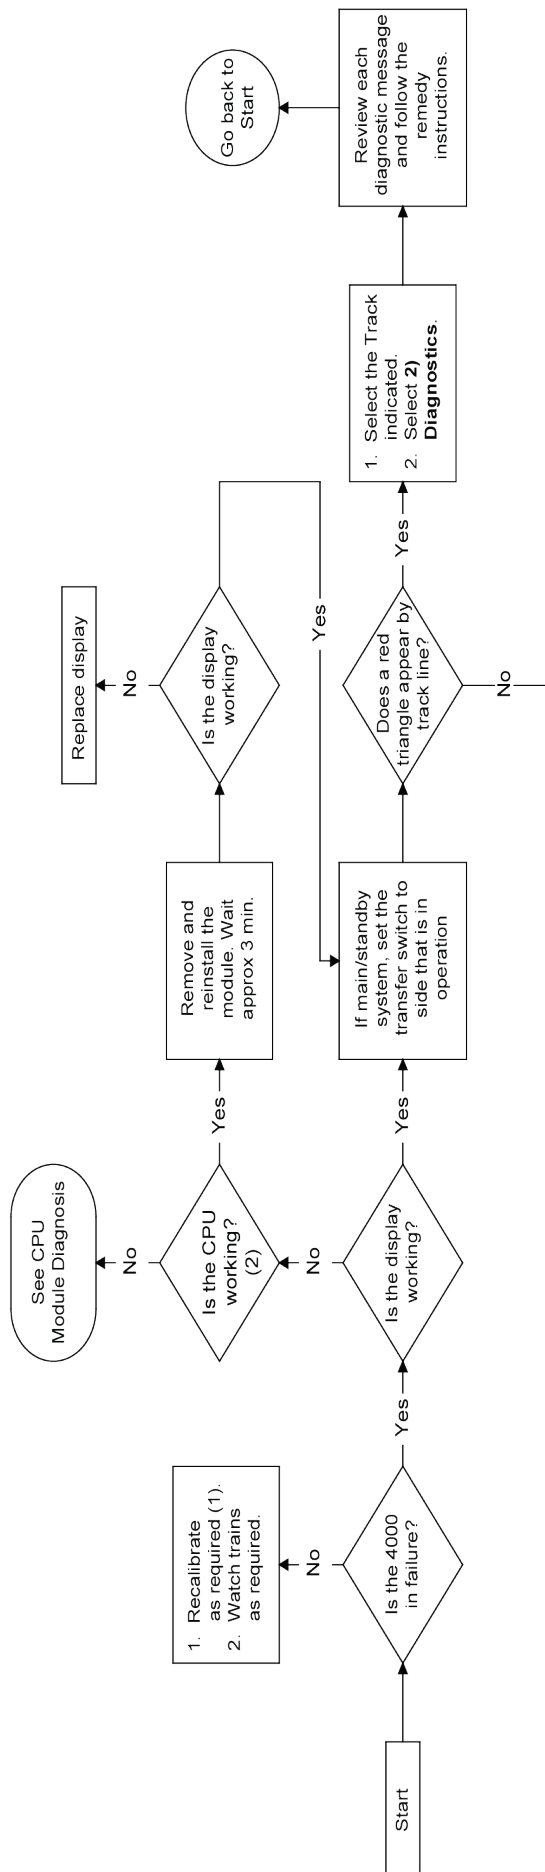
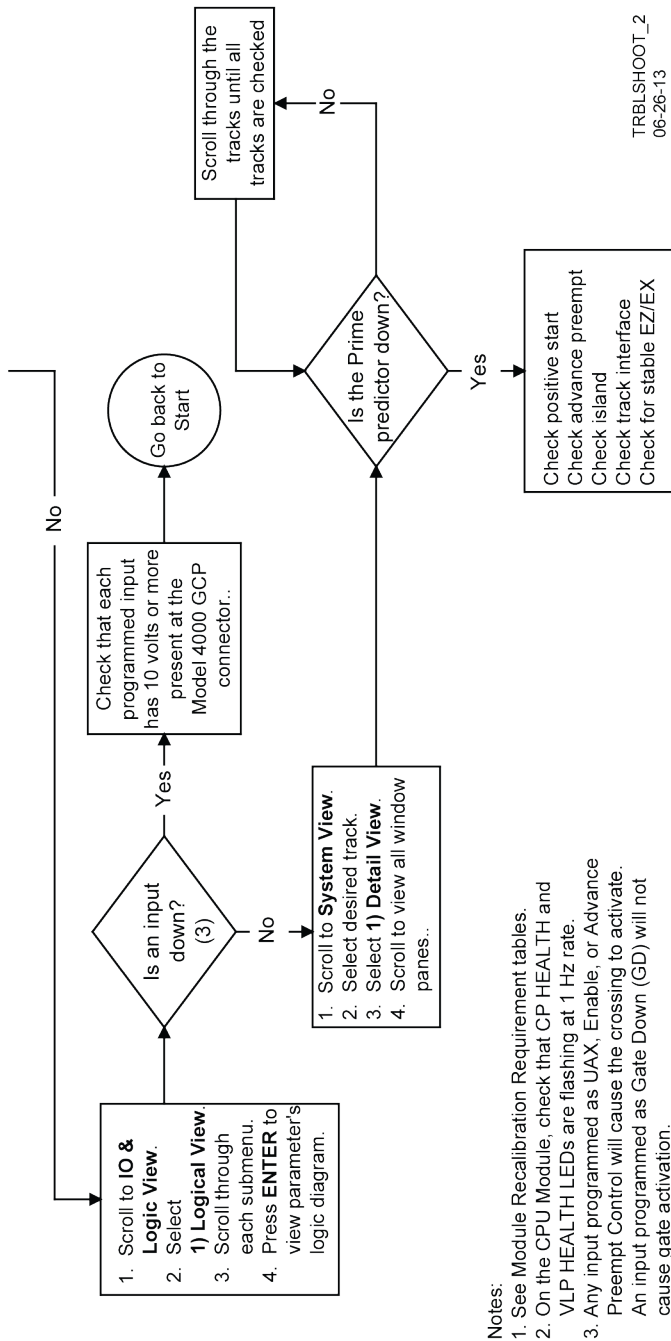

Figure 13: Troubleshooting Flowchart (Part 1)
Figure 14: Troubleshooting Flowchart (Part 2)
Refer to the Troubleshooting Flow Chart, on Figure 13 Page 80 and Figure 14 on Page 80, to assist in system and track problem diagnosis.
Refer to the Troubleshooting Flow Chart, Figure 13 and Figure 14, to assist in system and track problem. If the track module is healthy, predictors can be de-energized for the following reasons:
- The warning devices are not activated and modules are healthy, including SSCC IV and SEAR III if used. (If red warning triangles appear, proceed with Troubleshooting Flowchart, Figure 13 and Figure 14)